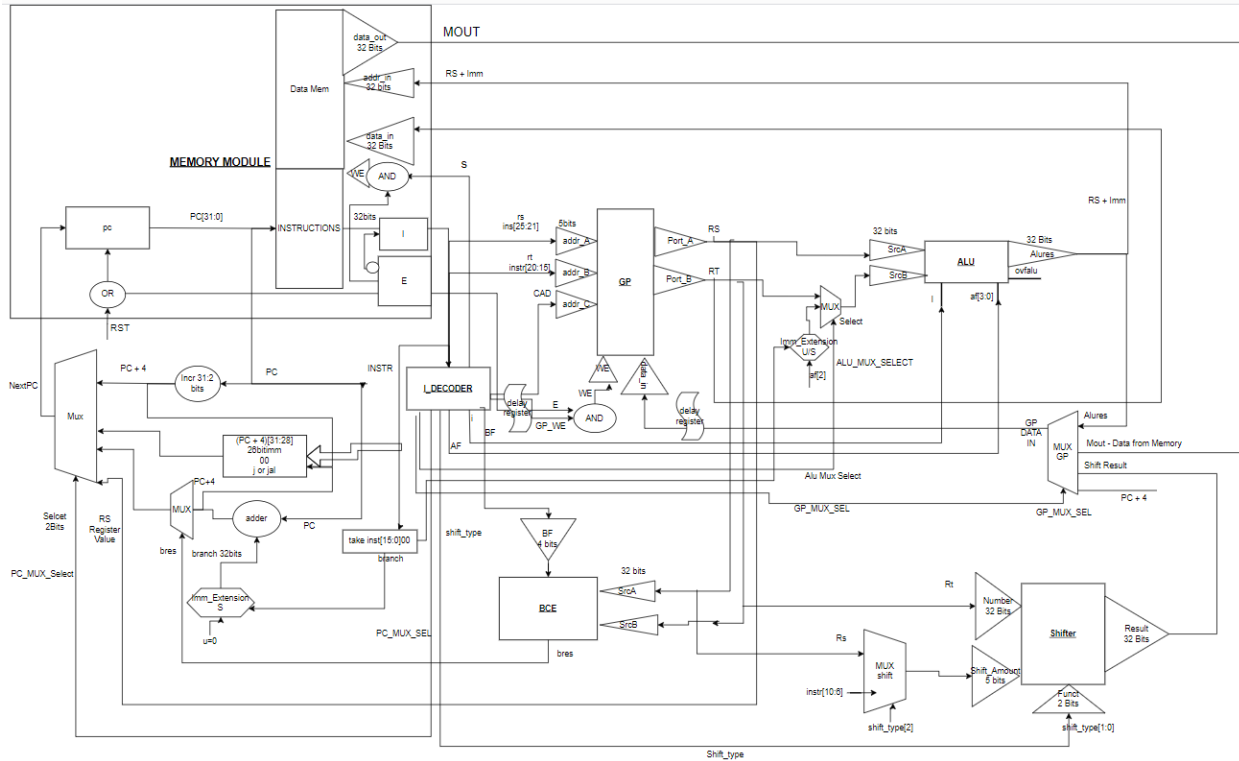

Figure 1
We have already written all of the components of MIPS Processor: Branch control evaluation unit, general purpose registers, instruction decoder, ALU MEMORY, shifter, signal extension. Now it is time to combine all of our modules and obtain MIPS Processor depicted on figure 1.
Figure 1 can be divided into X parts:
- 1) **Implementation:** You already have separate modules for BCE, GP, ALU, MEMORY, Shifter, Instruction decoder, immediate extension. Your task is to instantiate those 6 modules in one top module to obtain processor depicted on figure 1. You need to implement multiplexers in your top module